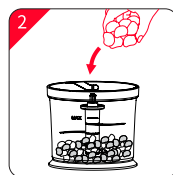

Fig. 2
- 2 Put the prepared vegetables or meat into a bowl. **DO NOT** exceed the **MAX** line. (Fig.2)